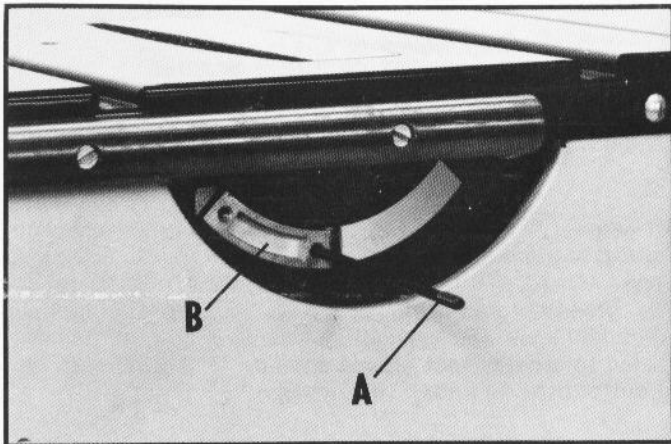

Fig. 14
1. Assemble the threaded rod (A) Fig. 14, to the right hand hole in the sliding trunnion bracket (B).